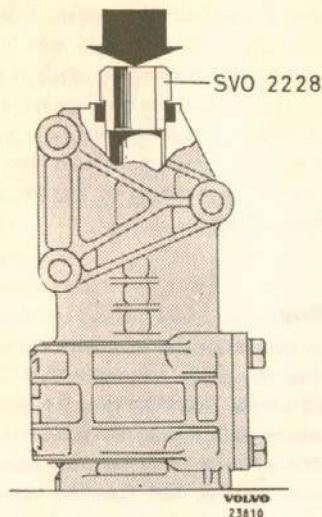
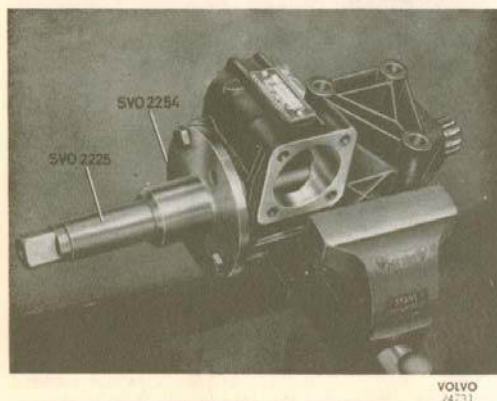

Fig. 6-25. Fitting the pitman arm shaft bushing
Fig. 6-26. Reaming the pitman arm shaft bushings
1. Press in the pitman arm shaft bushings from their respective directions with drift SVO 2228 and standard handle SVO 1801, see Fig. 6-25. Ream the bushings with reamer SVO 2225. Use guide SVO 2254 which is fitted onto the housing with two bolts, see Fig. 6-26. Carefully clean out all metal chippings from the steering box after reaming.